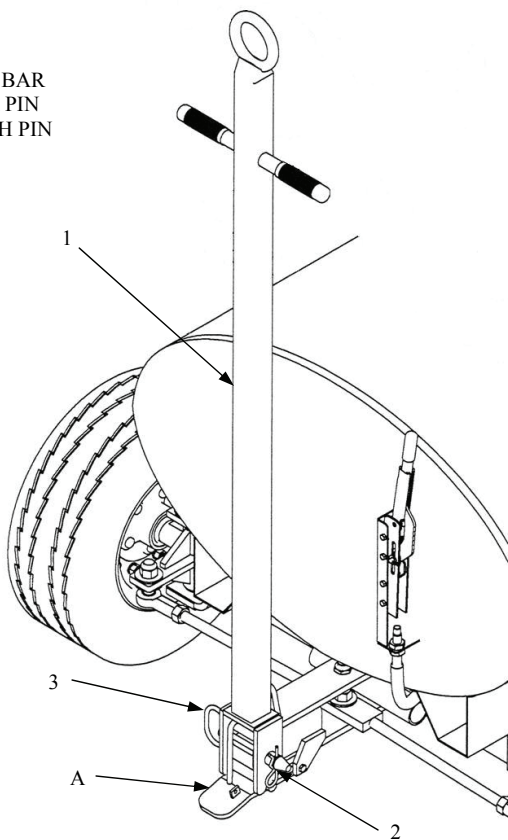

Figure 5-4. Tow Bar Removal
- c. Remove king pin (14) from yoke by using a rubber hammer.
- d. Grasp spindle assembly (18) and rotate toward front of tank until free of yoke. Remove spindle assembly from tie rod (15).
- e. Remove bushings (19) with bronze punch and hammer.
- g. Reassembly in reverse order. Nut (21) should not be tightened past snug.
5.3.3.4 Tow Latch Assembly. The tow latch assembly is used to secure the tow bar in the upright position. (See Figure 5-4).
- a. Remove tow bar (1) by placing the tow bar in upright, latched position. Remove hair pin (2). While holding onto tow bar, place foot on toe latch assembly (See reference arrow A) and depress.
- b. Pull hitch pin (3) from steering arm assembly and place tow bar to the side.